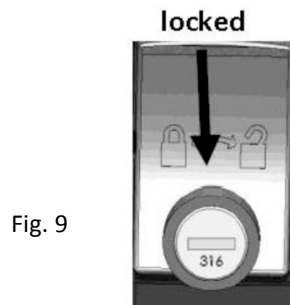

Fig. 10
Remove the L Pin (item L) from the front bracket and rotate the aluminum post to the vertical, or "in use" position. Insert the L pin in the lower hole per Fig. 6 & 7. Be sure release buttons on the ratchet hooks are in the unlocked position per Fig. 8. Next, position the long frame hook on top of the square post (A) with the hook facing the vehicle. Push the release button in and slide the frame hook down onto the post. Remember, the release button should be pushed in when installing the hook onto the post. Repeat for the short hook facing in the opposite direction, per Fig. 10